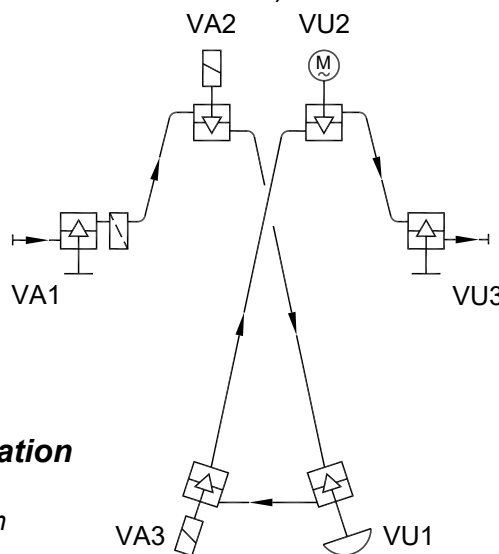

Fig. 4: 185 configuration
3. Ensure that the control elements and valve pilots are fitted to the correct VA or VU connections according to Fig. 4 (below).